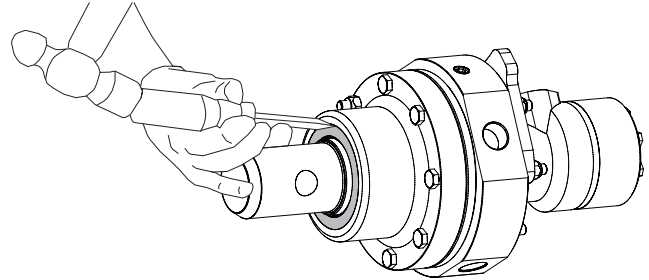

Figure 13
1. Use a sharpened punch to remove the output shaft seal. See Figure 13.